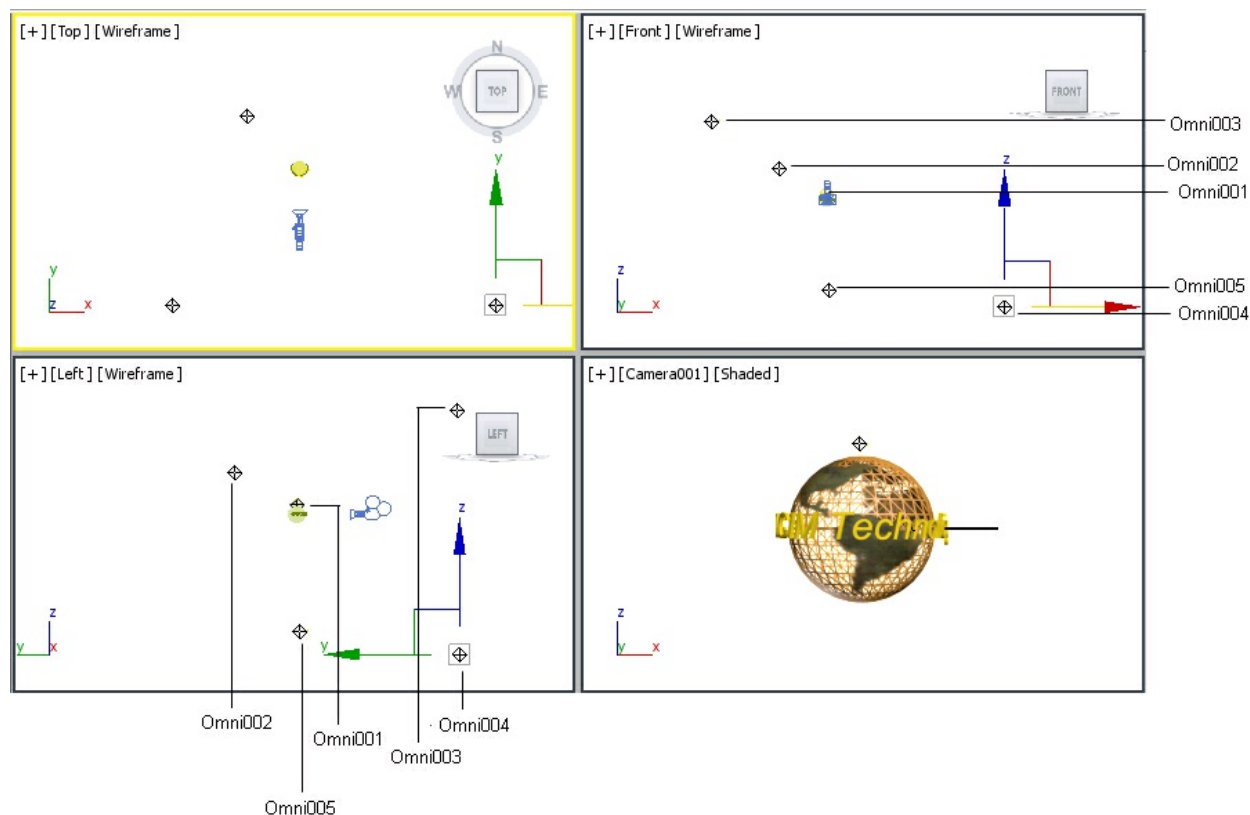

Figure 14-52 Omni lights aligned in viewports
2. Activate the Top viewport and choose the **Omni** tool from **Create > Lights > Standard > Object Type** rollout in the **Command Panel**. In the Top viewport, click at the center of *wireframe earth sphere*; an omni light is displayed in all the viewports. It is automatically named as *Omni001*. Right-click to exit the command. Next, align *Omni001* light in all the viewports, refer to Figure 14-52.
3. Create four copies of *Omni001* light and align all lights, as shown in Figure 14-52.